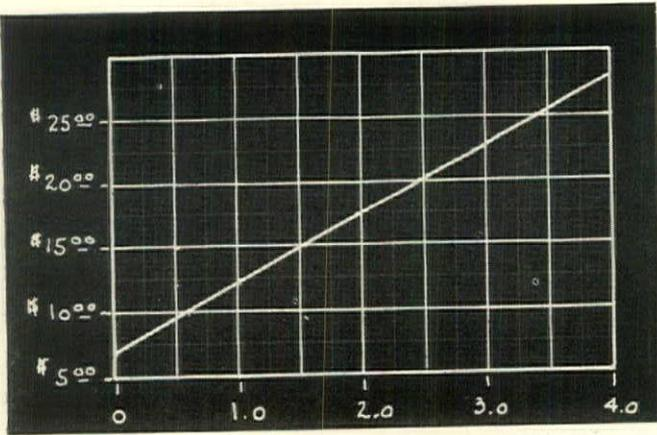

FIGURE 1: Relation between cost of coal and thickness of insulation required.
Many useful deductions can be made from Formula (1). It is interesting to note the variation in the thickness of insulation required with the variations in the various factors entering into the problem. Figs. 1 to 6, inclusive, show the relation between the thickness of insulation required and each of the variables which govern the thickness for the assumptions used in the problem cited. In other words, each figure shows the increase or decrease in the thickness of insulation required with the corresponding increase or decrease in one of the factors involved, when the others remain constant. For example, Fig. 1 shows the variation with the cost of coal. With coal at \$12.00 per ton, the thickness of insulation required is approximately 1 in. as previously stated, whereas if coal can be purchased for \$6.77 per ton, it would not pay to install the insulation
for the conditions involved because the thickness indicated by Fig. 1 is 0 in. On the other hand, according to Fig. 1, if coal should cost \$20.00 per ton, the thickness of insulation required would be about $2\frac{1}{2}$ in. if figured on the foregoing basis. This seems to be entirely logical because it is obvious that the more costly the fuel the greater the thickness of insulation required, whereas if coal is cheap enough, no insulation is required. It should be emphasized that Fig. 1 applies only to the specific conditions involved and although the curve would be of the same general character for other conditions, it